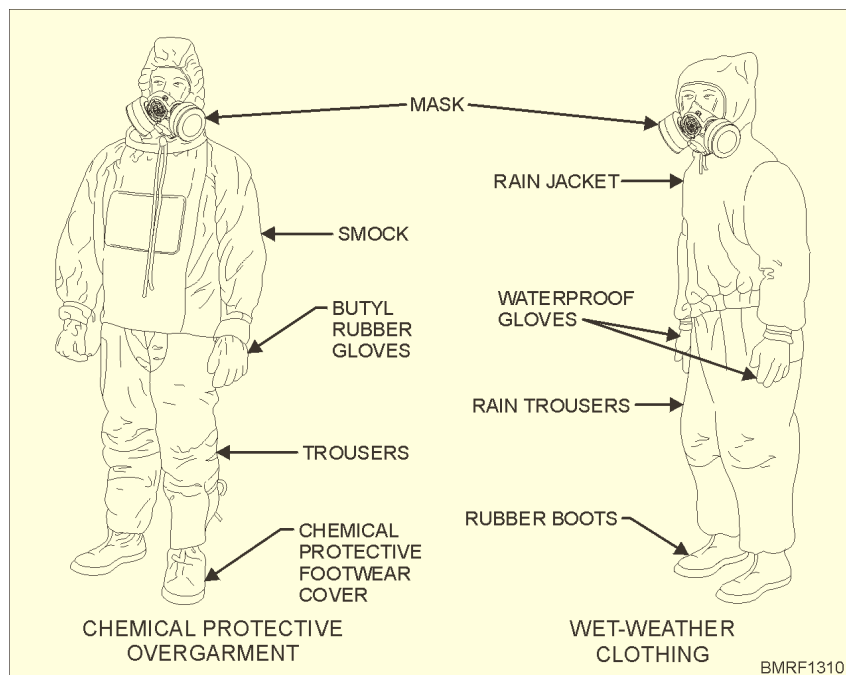

Figure 13-10.—Types of chemical-protective overgarments.
**CHEMICAL - PROTECTIVE OVERGARMENT.**—The chemical-protective overgarment consists of two pieces—a smock and trousers (fig. 13-10). The smock has two layers of materials: inner (antigas) and outer (monacrylic/nylon). The smock is generously cut to allow complete freedom of movement. It has a large front flap pocket for gloves, and so forth, and a sleeve patch where you can place detector paper for easy visibility. You can make quick and easy adjustments with hook-and-pile fasteners at the wrist and waist. The trousers are made of the same two layers of material and have suspender-type fittings located at the waist and across the shoulders. Hook-and-pile fasteners are located at the base of each leg for adjustment. The chemical-protective overgarment is issued in a plastic envelope that is
Wet-weather clothing (refer back to fig. 13-10) is often described as impermeable or rubberized clothing. Its value results from the fact that the previously described impregnated/protective clothing can be